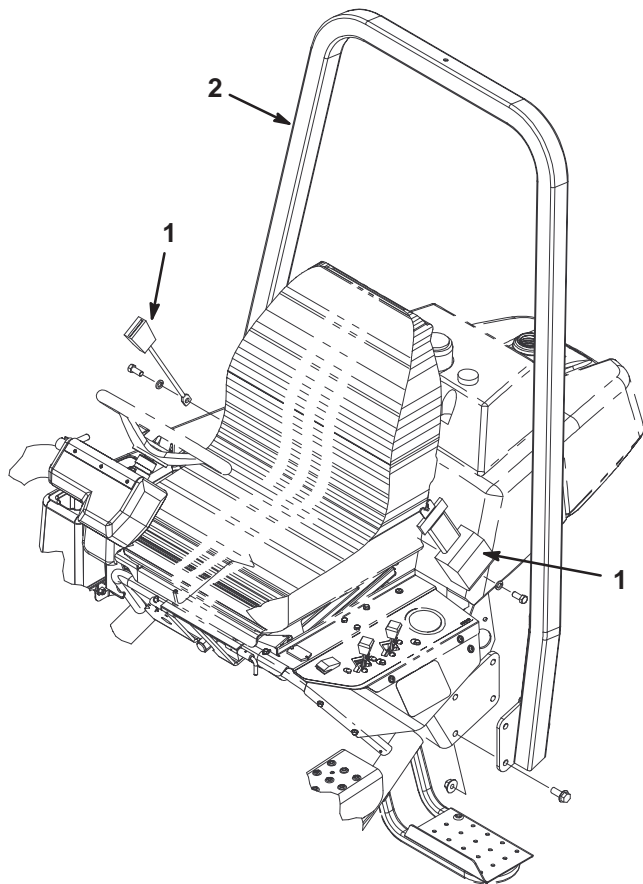

Figure 8
Install each end of seat belt (Fig. 8) to holes in back of seat with screws (7/16–20 x 1 in.) and lock washers (7/16 in.). Tighten securely.
1. Lower ROPS frame (Fig. 8) onto mounting brackets, aligning mounting holes.